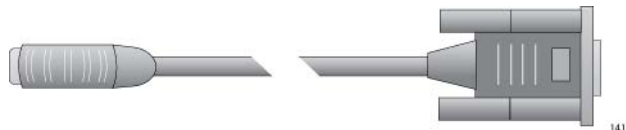

Figure 68. Management Cable Included with Switch
- ❑ Local management sessions require a management cable. If your computer has an RS-232 port, you can use the management cable supplied with the product, shown in Figure 68. The cable has a RJ-45 connector that connects to the Console port on the switch, and a female DB-9 (D-sub 9-pin) connector that connects to your computer.